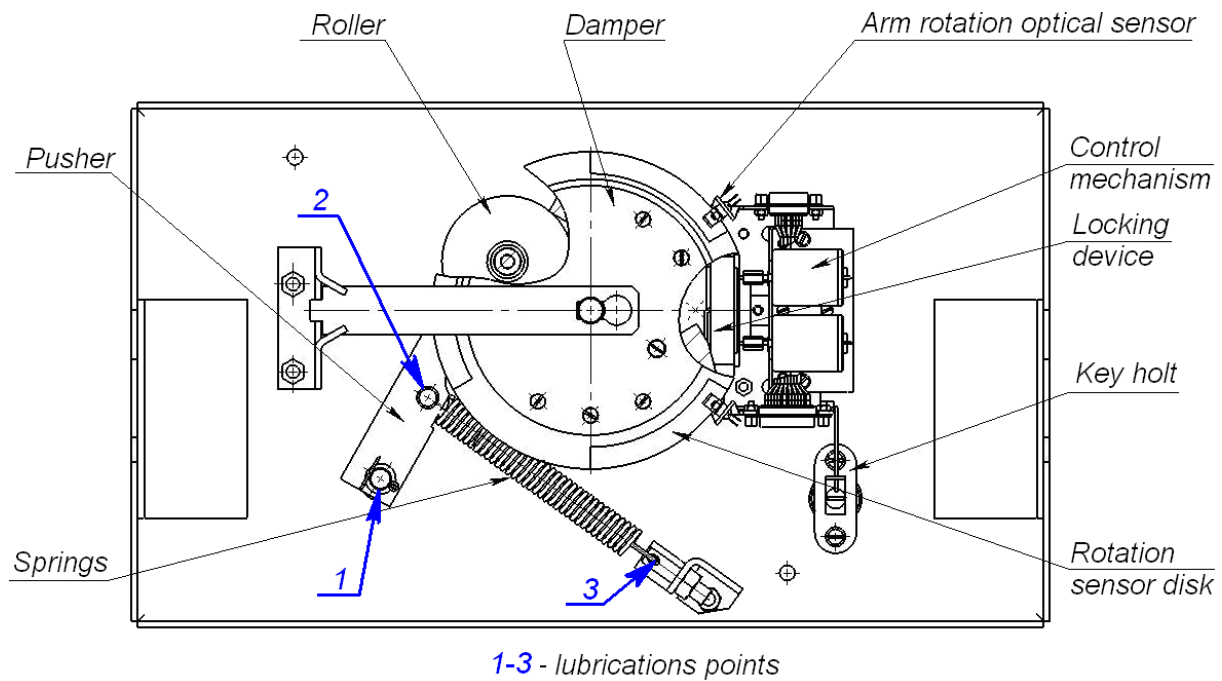

Figure 14. Arrangement of the components inside the IP-Stile housing
2. remove the cover (3) as described in section 6;
4. inspect the resetting device (the pusher, the springs and the roller), the optical rotation sensors for the barrier arms and the damper (ref. Figure 14);
- o four bushes of the resetting device (two on the rotation axis of the pusher and two on the fastening axis of the spring), as well as the holes in the fastening parts of the springs: two-three oil drops into each lubrication point (the lubrication points are shown in Figure 14);